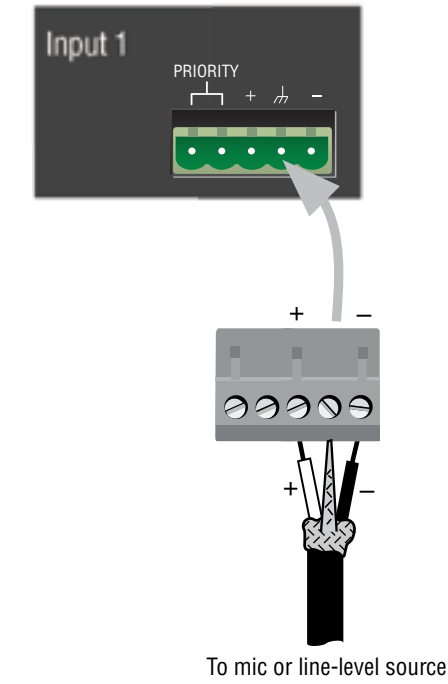

Figure 2.3 Mic/Line Connector
• **Mic/Line Connector (CH1):** 5-pin Phoenix-type, balanced, pins 3, 4 and 5 (Figure 2.3).